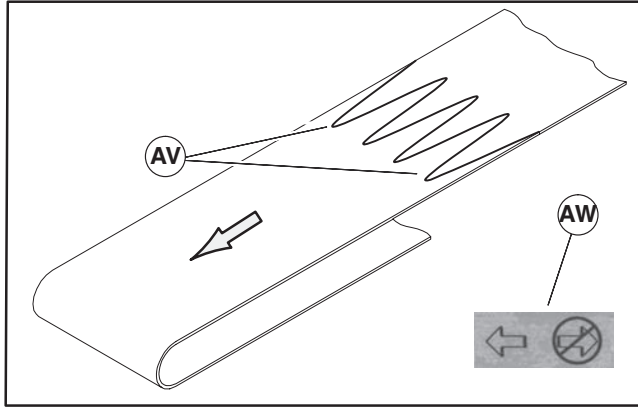

Figure 27
1. Orient belt so splice leading fingers (Figure 27, item AV) point in the direction of belt travel as identified by the conveyor directional label (AW).
2. Orient belt so splice leading fingers (Figure 27, item AV) point in the direction of belt travel as identified by the conveyor directional label (AW).